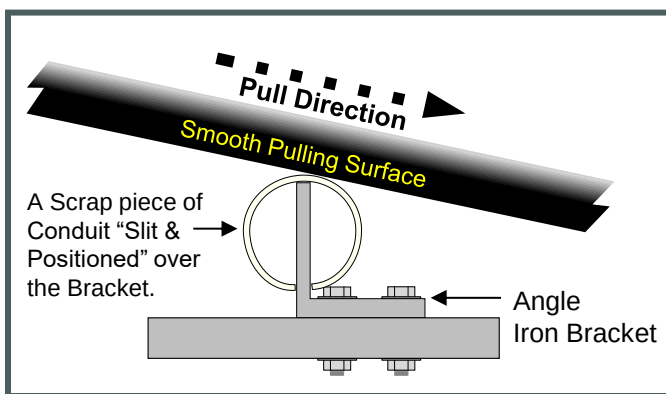

Figure 14
13.6.1 Install some type of hard and rounded temporary protective covering (e.g.: Split Innerduct, a Roller Wheel, a temporary Waterfall or Bridge product, etc.) over all sharp points if there is any chance the Tube Cable will come in contact with them. **See Fig. 14.**